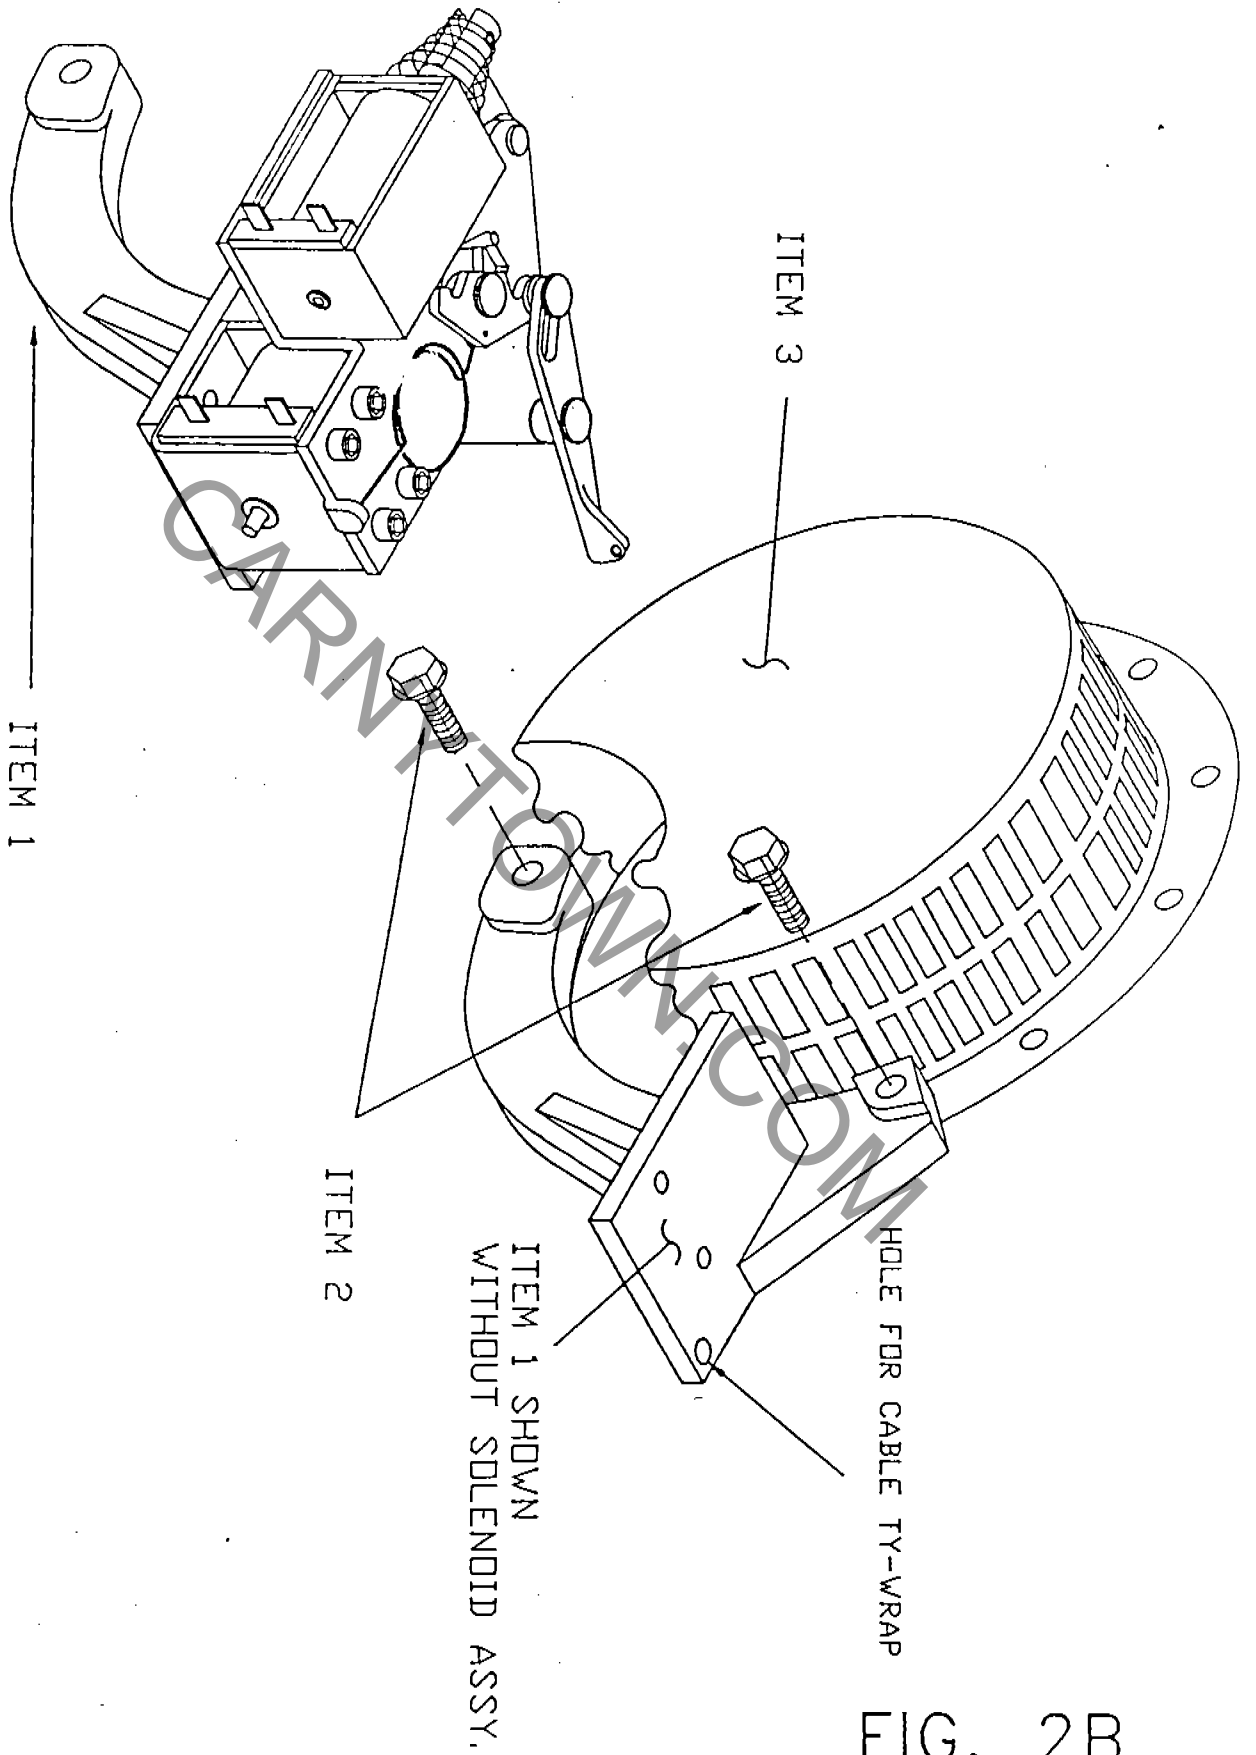

FIG. 2B
- 2..Insert the offset end of the governor control rod (A) in the engine governor lever (item 2) as shown (fig.4B). Note: It may be necessary to drill this hole, (3/32"). See item 2 fig.4B. Holding the solenoid actuator assembly in place, insert the straight end of the governor control rod (A) in the tab of the actuator control lever (B). Mount the Solenoid Actuator Assembly as shown (fig.2B) using the two 6mm bolts supplied. Tighten securely. Slip the compression spring (C) onto the governor control rod (A) as shown in (fig.4B ). Position the actuator control lever (B) rearward to the locked position. Place the set collar (D) on the governor control rod (A). With supplied allen wrench inserted in set screw in the set collar, slide collar forward, and compress spring (C) approximately 1/3 of it's length (fig.4B). Make certain the engine governor lever (item 2) is at it's rearmost position. Temporarily tighten the allen set screw in the set collar.
- 13.. ENGINE INSTALLATION... Place engine in the car with enough clearance to install the recoil housing assembly. At this time the IB1 actuator assembly is placed in position over the proper mounting holes in the recoil housing and the cooling fan cover (see item "1", (FIG. 2B). Note. Read section (2) of "INSTALLATION OF JVI'S IDLEBACK CONTROL SYSTEM" for proper mounting of the actuator assembly. Position engine in place using the two long bolts at the front of the engine and the two short bolts at the rear of the engine. Tighten one bolt slightly. Using a straight edge, check alignment of the engine output sprocket with the transmission input sprocket. After making sure they are in alignment, tighten all bolts. Recheck for alignment. THIS IS ALIGNMENT IS CRITICAL.